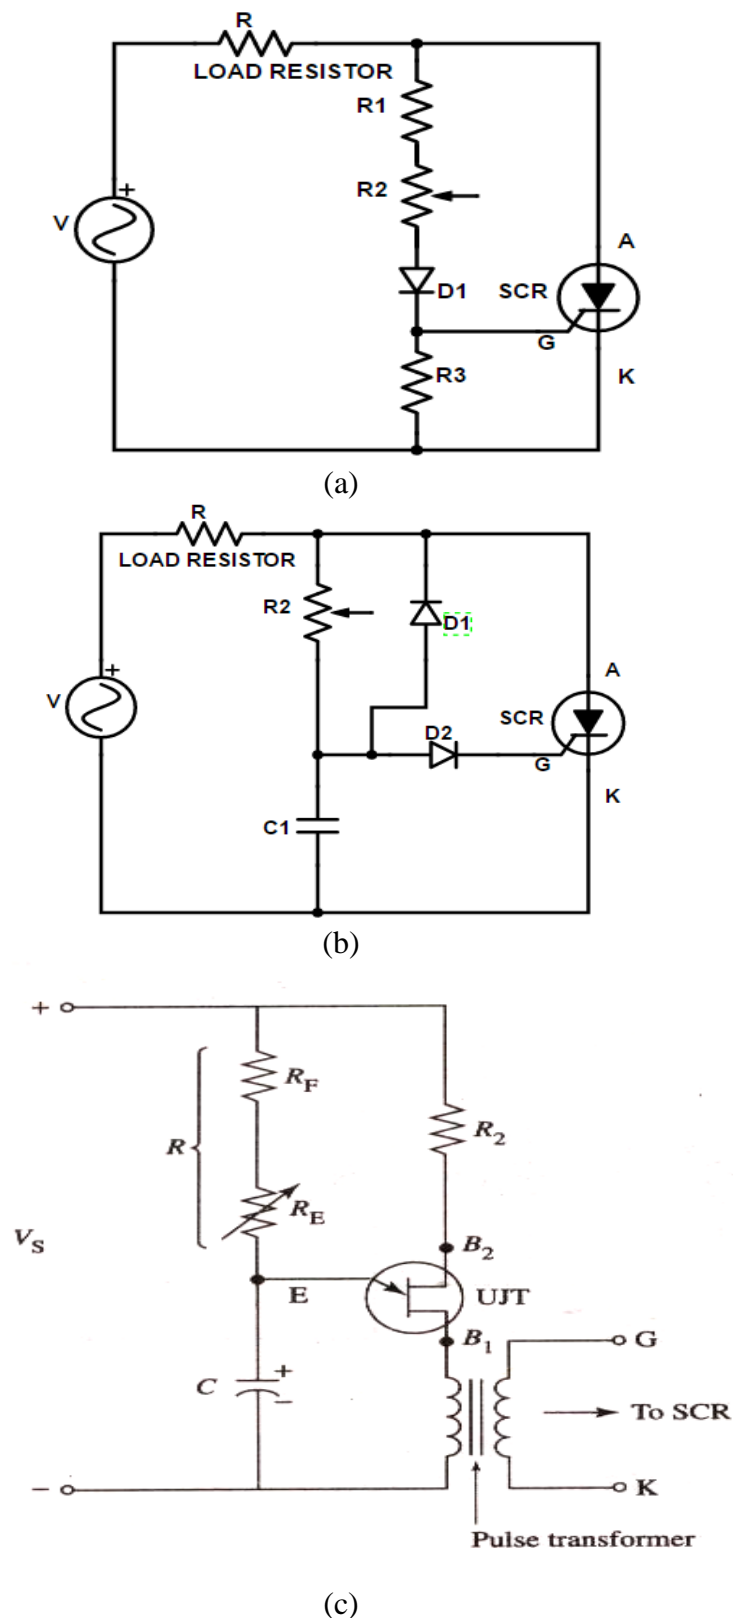

Fig. 2.1 Connection diagram of (a) R (b) RC and (c) UJT-firing circuit
It includes few fixed resistor, variable resistor, diode, SCR (Silicon Controlled Rectifier), Load resistor. The circuit diagram of R-triggering is given in Fig. 2.1 (a). This figure shows a very simple variable resistance half-wave circuit. It provides phase retard from essential zero (SCR full “on”) to 90 electrical degrees of the anode voltage wave (SCR half “on”). Diode D1 blocks reverse gate voltage on the negative half-cycle of anode supply voltage.
It includes variable resistor, two diodes, SCR (Silicon Controlled Rectifier), Capacitor, Load resistor. The circuit diagram is shown in Fig. 2.1 (b). On the positive half-cycle of SCR anode voltage the capacitor charges to the trigger point of the SCR in a time determined by the RC time constant and the rising anode voltage. The top plate of the capacitor charges to the peak of the negative voltage cycle through diode D2 on the negative half-cycle, resetting it for the next charging cycle.
1. All connections are to be made as per the circuit diagram given in Fig. 2.1. (a).
1. All connections are to be made as per the circuit diagram given in Fig. 2.1. (b).
1. All connections are to be made as per the circuit diagram given in Fig. 2.1. (c).